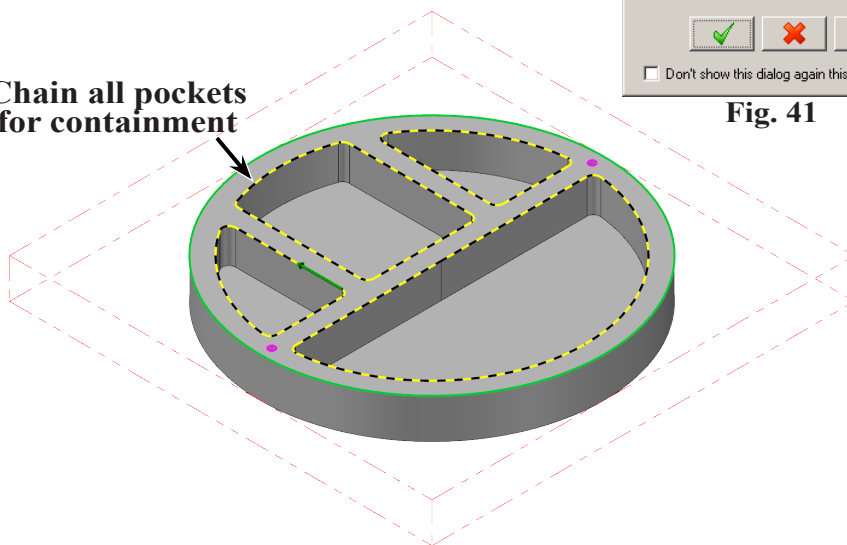

Fig. 43
Step 5. Click **any geometry of each pocket** to chain all pockets and click OK  in Chain dialog box, **Fig. 43**.